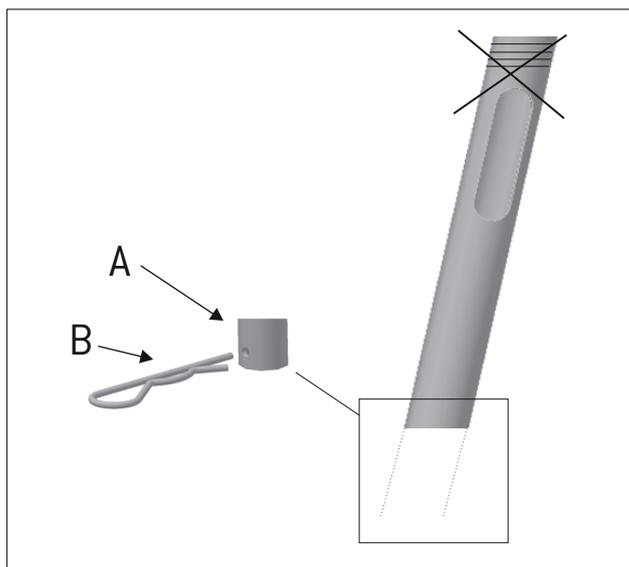

Figure 2
2 - A hole will have to be made at the opposite end of the stem from where the thread is. The hole must be done 5mm (0.2/8") from the end of the stem and have a 3mm (0.1/8") diameter (A) in order to be able to insert the retaining clip (B). We recommend to mark the spot with a pointy object. Hole has to go through both sides of the stem. Figure 2.